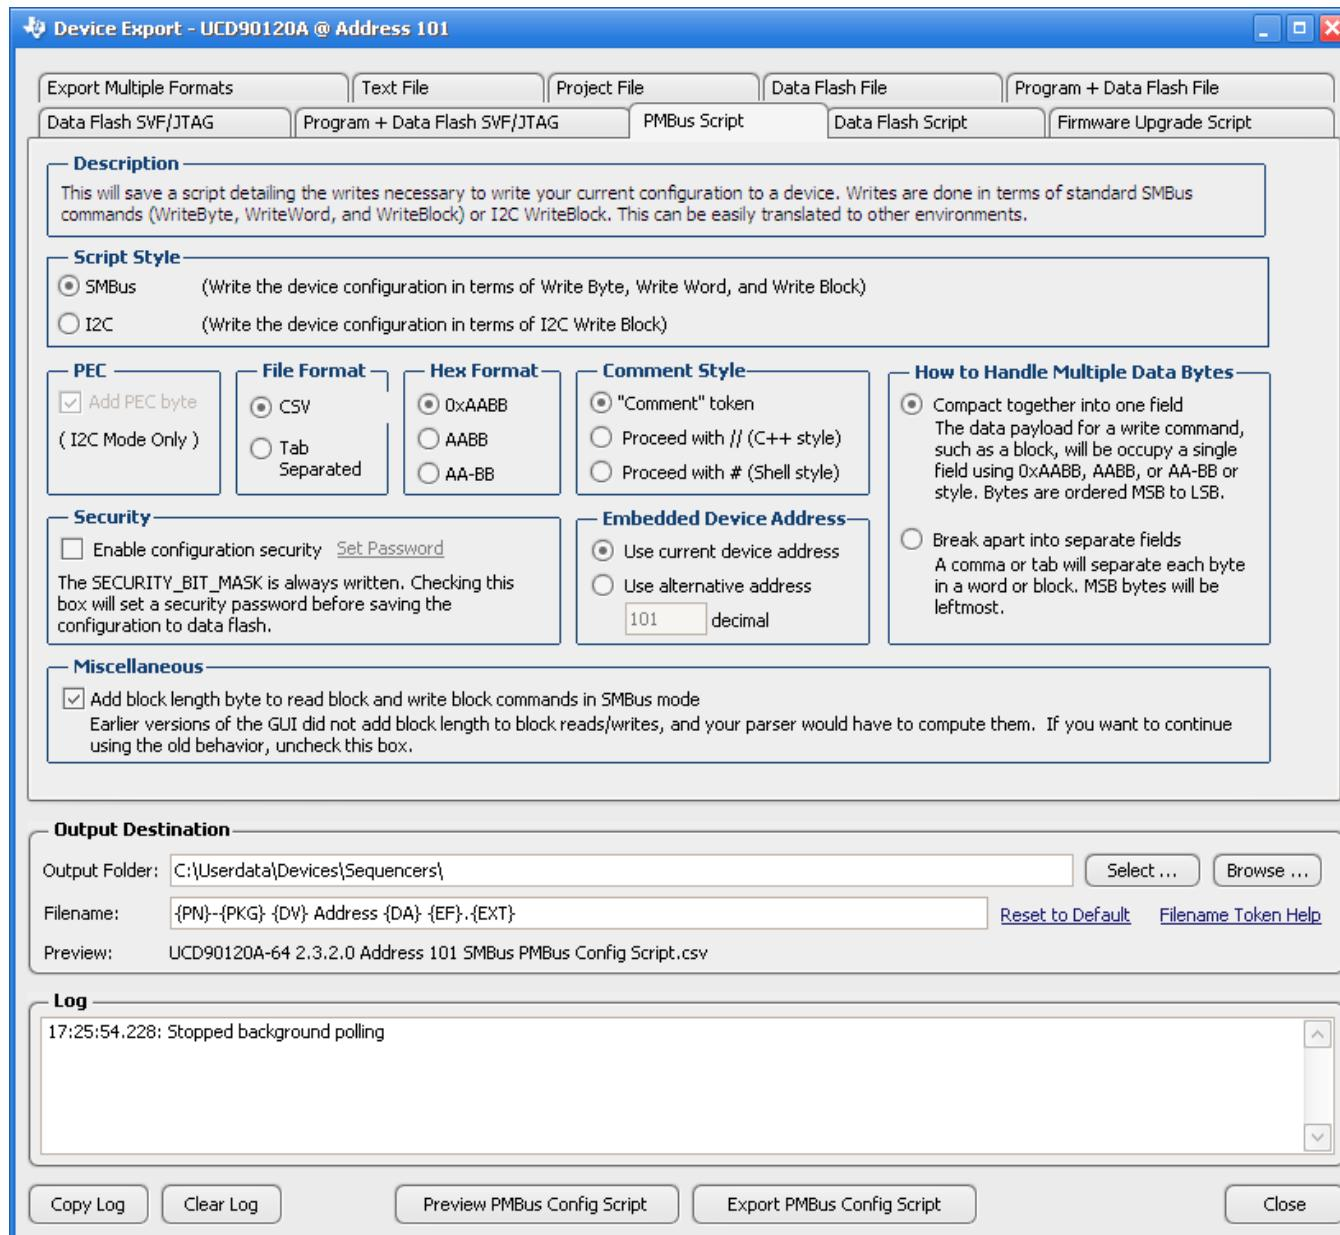

Figure 30. Fusion GUI PMBus Configuration Script Export Tool
2. The *Fusion GUI* (Figure 30) can create a PMBus or I2C command script file that can be used by the I2C master to configure the device.